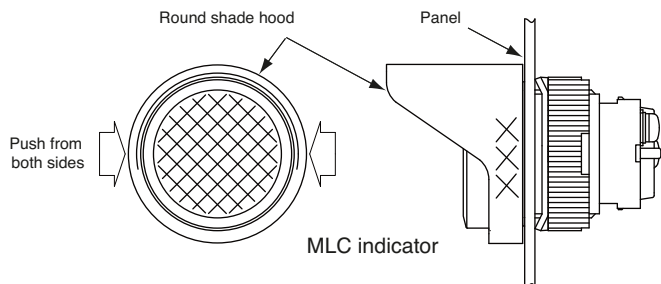

Figure 2: Installing the Round Shade Hood
- 2) To install the shade hood for the round type in the panel, if you fasten the mount screw, the body may turn together. Please push both sides of the hood (x area) with your fingers as illustrated in Figure 2 for easy installation.